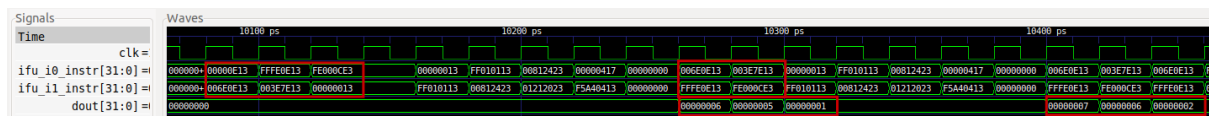

Figure 90. Execution of the three Arithmetic-Logic instructions from the example
- Zoom in around 10100 ps, where you will analyse the execution of the three arithmetic-logic instructions of the first and second iterations of the loop (Figure 90). The first two instructions (`li t3, 0x0` = `0x00000E13` and `addi t3, t3, 6` = `0x006E0E13`) are fetched first, one in each way of the superscalar RISC-V processor as shown on signals `ifu_i0_instr[31:0]` and `ifu_i1_instr[31:0]`. The next two instructions (`addi t3, t3, -1` = `0xFFFE0E13` and `andi t3, t3, 3` = `0x003E7E13`) are fetched in the next cycle. The last two instructions are fetched (`beq zero, zero, REPEAT` = `0xFE000CE3` and `nop` = `0x00000013`) in the next cycle.
Because of the SweRV core's 9-stage pipelined processor and dependencies, the effects of the instructions are seen eight or more cycles after the instructions are fetched. Eight cycles after the first and second instructions are fetched, `x28` (`t3`) becomes 0 (which it was already) because of the first instruction: `li t3, 0x0` (`0x00000E13`). One cycle later, `x28` is updated to 0x6 because of the next instruction: `addi t3, t3, 6` (`0x006E0E13`). Next, `x28` updates to 5 because of the next instruction: `addi t3, t3, -1` (`0xFFFE0E13`). Finally, `x28` updates to 1 because of the next instruction: `andi t3, t3, 3` (`0x003E7E13`). Then the next two instructions are fetched: `beq zero, zero, REPEAT` (`0xFE000CE3`) and `nop` (`0x00000013`), the branch is taken and the loop repeats. This is as predicted in Figure 89. Using a similar reasoning, you can analyse the second iteration, which is also highlighted in Figure 90 and predicted in Figure 89.